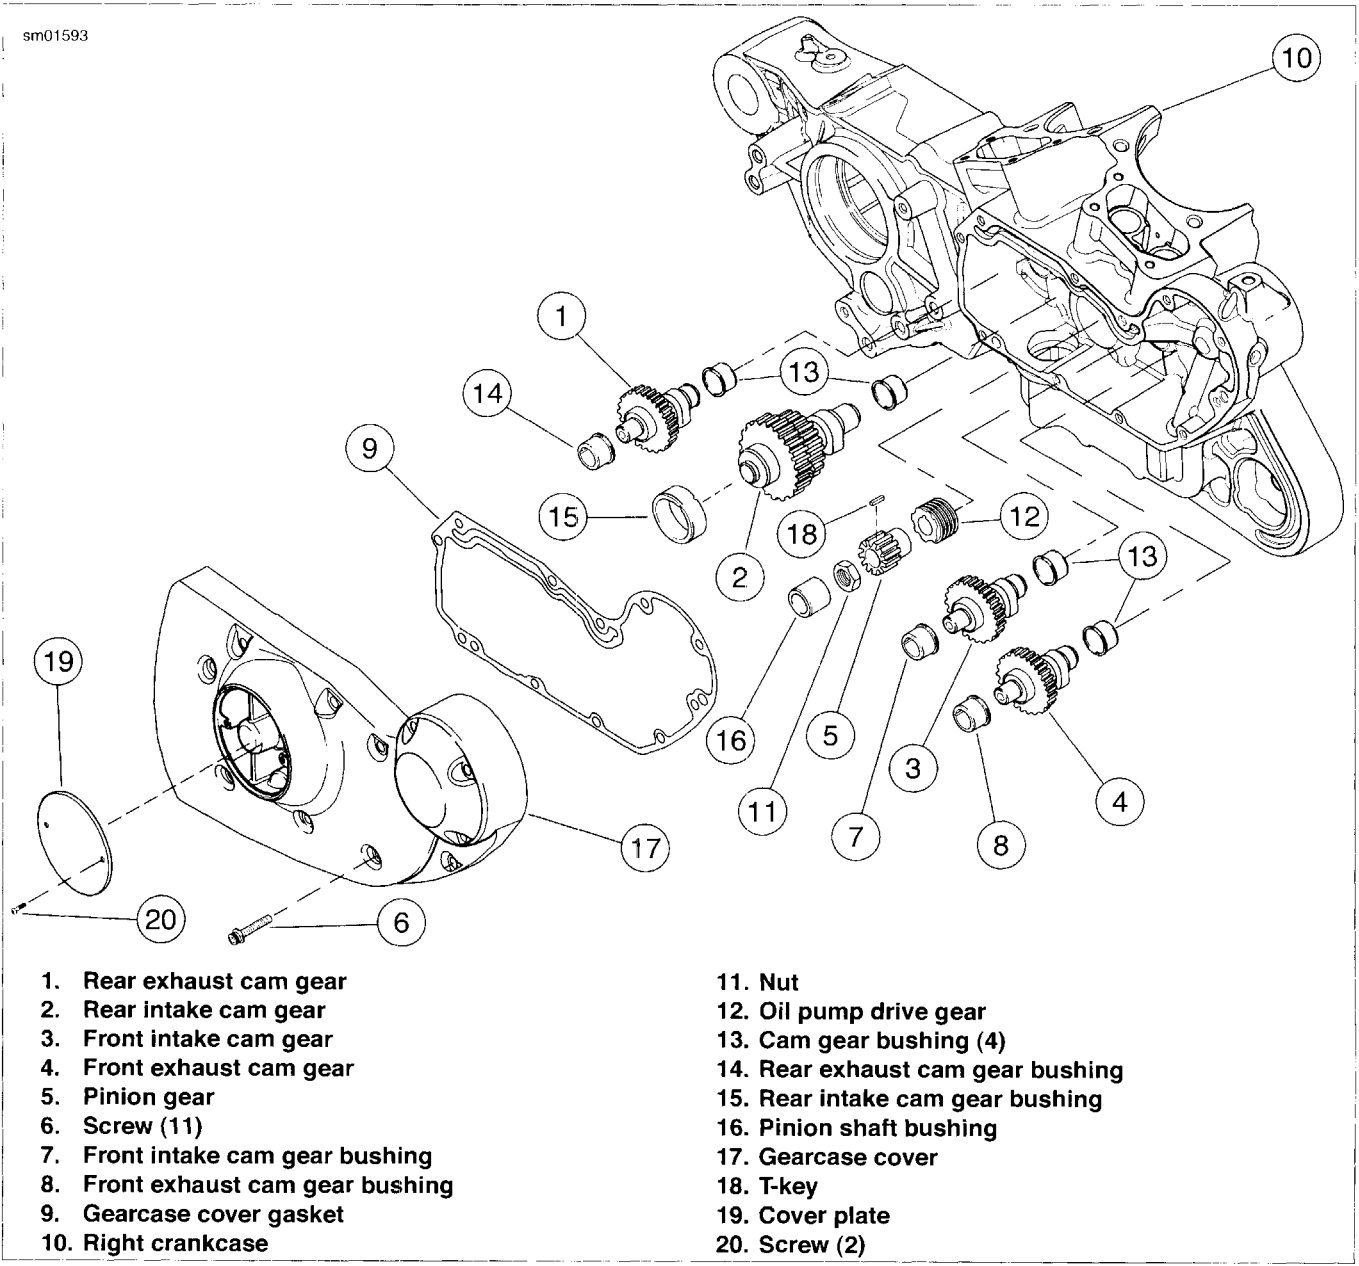

Figure 3-70. Gearcase and Valve Train Components: XL Models
- See Figure 3-70. Place a pan under gearcase to collect oil. Remove cover screws (6). Carefully remove gearcase cover. Discard old gasket (9).